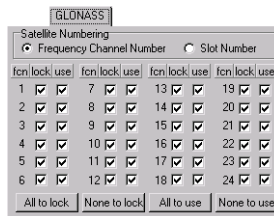

Figure 2-24. GLONASS Tab
- The second tab, as its name implies, deals with the GLONASS satellites (Figure 2-24).